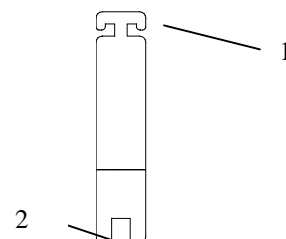

Fig. 3b
- The tool (fig. 3b.2, size 30) for the height adjustment of the setting feet of the cryostat is packed together with the accessories of the cryostat (separate carton on the foot rest of the cryostat).